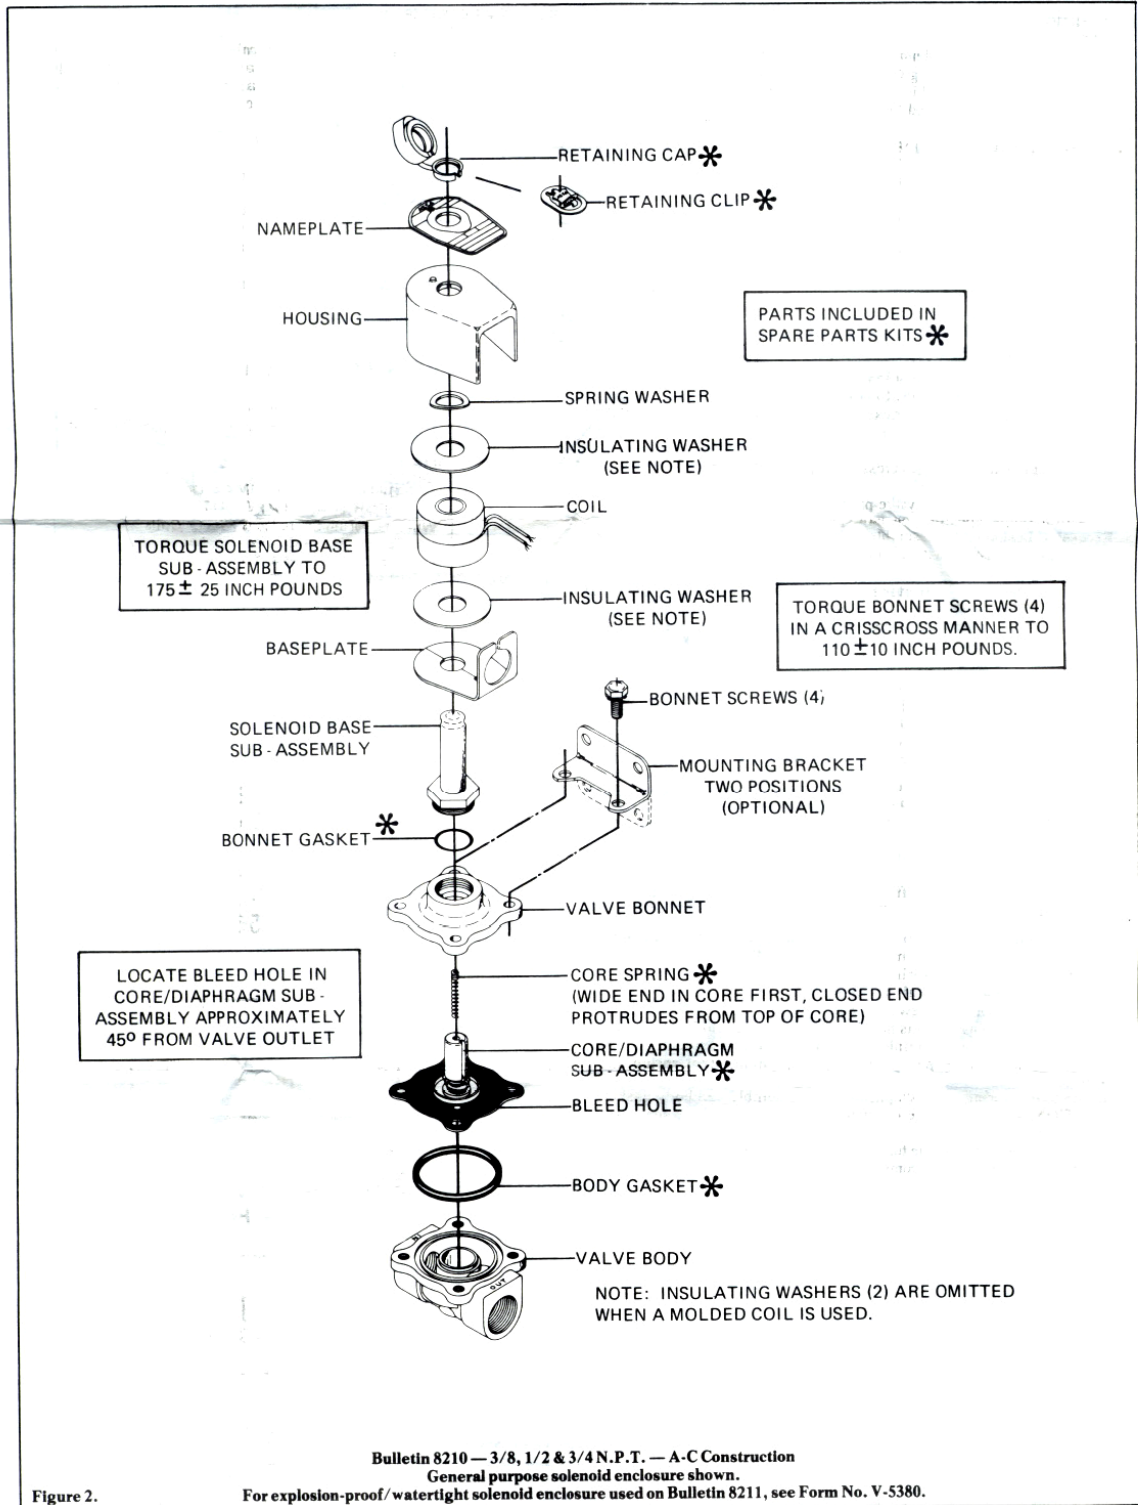

Figure 2.
VALVE DISASSEMBLY (Refer to Figures 2 and 3)
1. Disassemble valve in an orderly fashion using exploded views for identification and placement of parts. Refer to Figure 2 for AC construction; Figure 3 for DC construction.